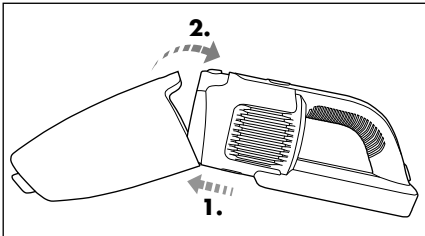

Fig. 6
- 6) Reattach the dirt container **9** to the hand element **3** by first pushing the lower catch on the hand element **3** into the recess on the dirt container **9**. Then press the upper part of the dirt container **9** onto the hand element **3** until the dirt container **9** clicks into place and sits firmly on the hand element **3** (Fig. 6).